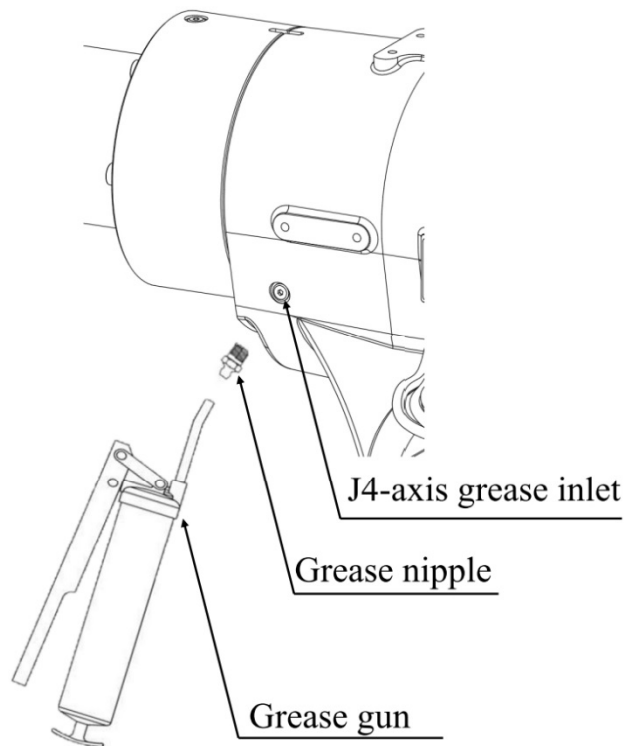

Figure 5-7 Grease replenishment
Step1 The grease inlets and the air vents of the robot are shown in Figure 5-7.